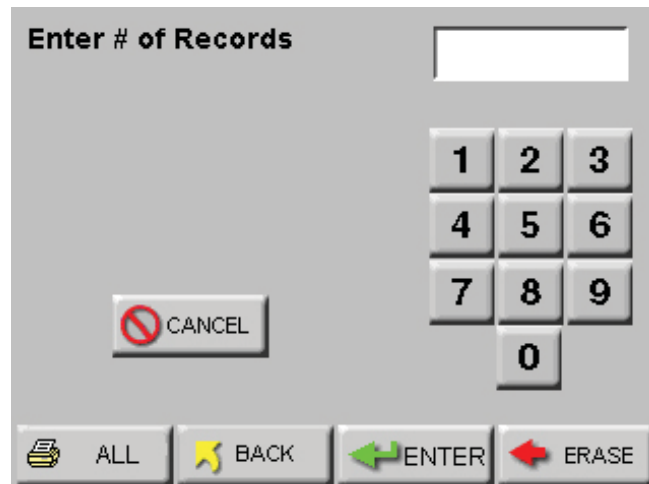

Figure 6-82 Print Range Screen
- Press the **RANGE** button. The Print Range screen displays as shown in Figure 6-82.